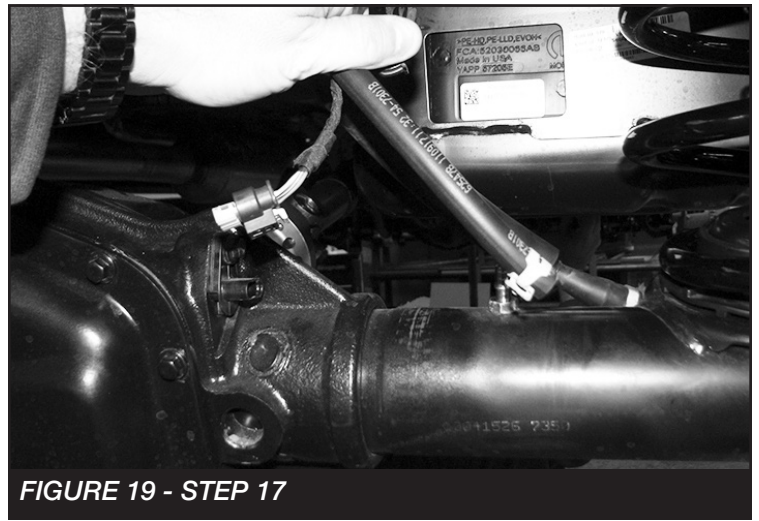

FIGURE 19 - STEP 17
17. Unplug the locker harness from the axle (**RUBICON MODELS ONLY**) SEE FIGURES 19